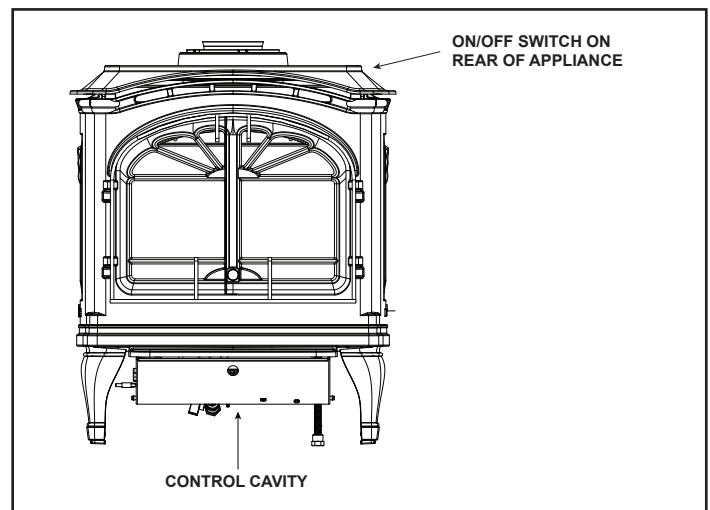

Figure 3.5 ON/OFF Switch/Control Cavity Location
1. Access the control cavity of the appliance. See Figure 3.5 for location.
- Toggle the switch as you would under normal circumstances. See Figure 3.5.
To operate the appliance without a wall control or remote control, use the ON/OFF switch located on the front panel of the control cavity of the appliance. See Figure 3.5.